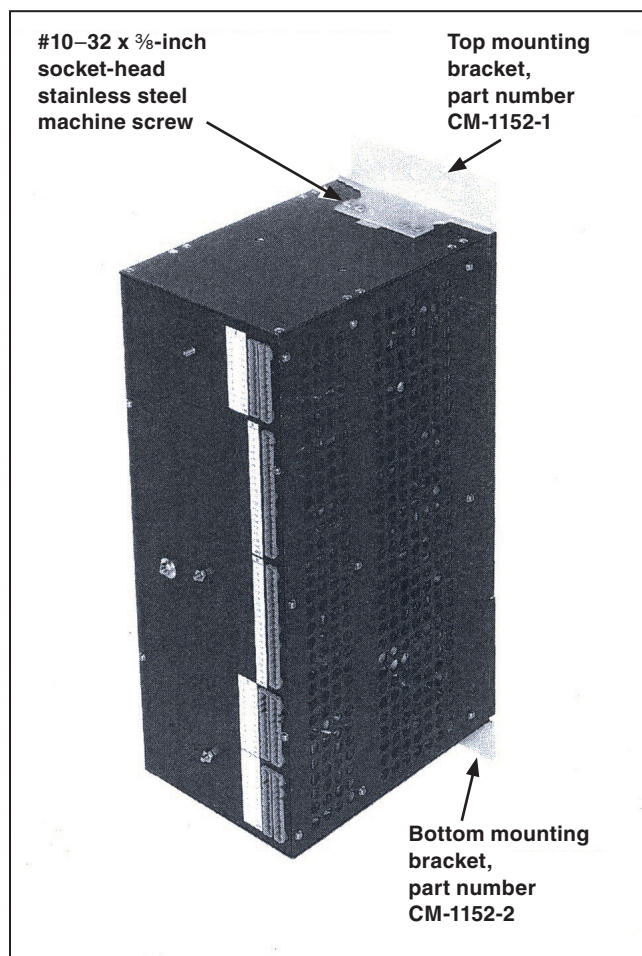

Figure 6. Attaching the top and bottom mounting brackets to the Micro-AT Source-Transfer Control enclosure.
STEP 3. Remove and discard the top and bottom mounting brackets attached to the Micro-AT Source-Transfer Control enclosure. Attach the top mounting bracket, part number CM-1152-1 (furnished in the retrofit kit), to the top of the enclosure using four #10-32 x 3/8-inch socket-head stainless steel machine screws (furnished in the retrofit kit). See Figure 6. Attach the bottom mounting bracket, part number CM-1152-2 (furnished in the retrofit kit), to the bottom of the enclosure using four #10-32 x 3/8-inch socket-head stainless steel machine screws (furnished in the retrofit kit).